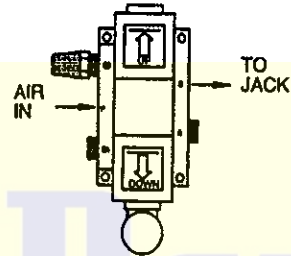

FIGURE 1
2) Will not lower.	Air valve might be incorrectly assembled to jack- Assemble as shown in Figure 1. The safety bar might be engaged – Admit air until the jack raises slightly, then disengage the bar.